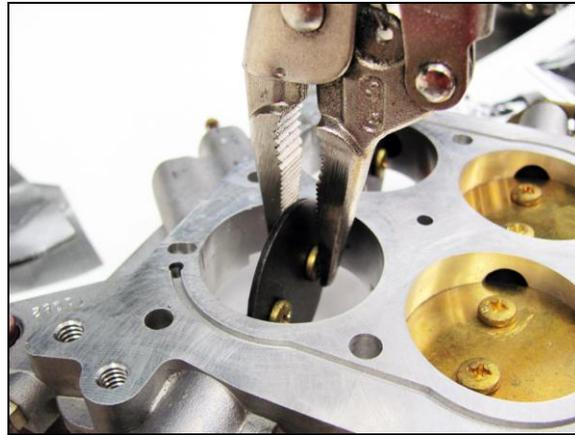

Figure 10
4. Making sure that there is no binding in the throttle shaft, you will now restake the throttle plate screws. Use a pair of duck-billed vise grip pliers for this procedure. Using this type of plier, design will prevent damage to the throttle bore (Figure 10).